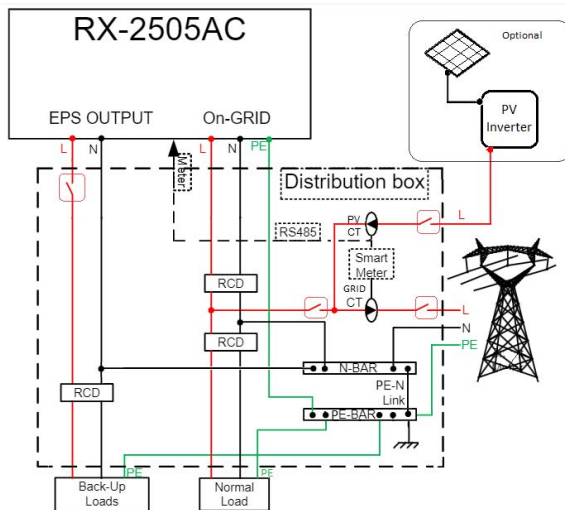

Figure 5-6 – 240V connection diagram of backup power supply (EPS) and On-grid
- 2.If you need to use both the grid connection and backup power supply functions, refer to Figure 5-6 to connect cables.